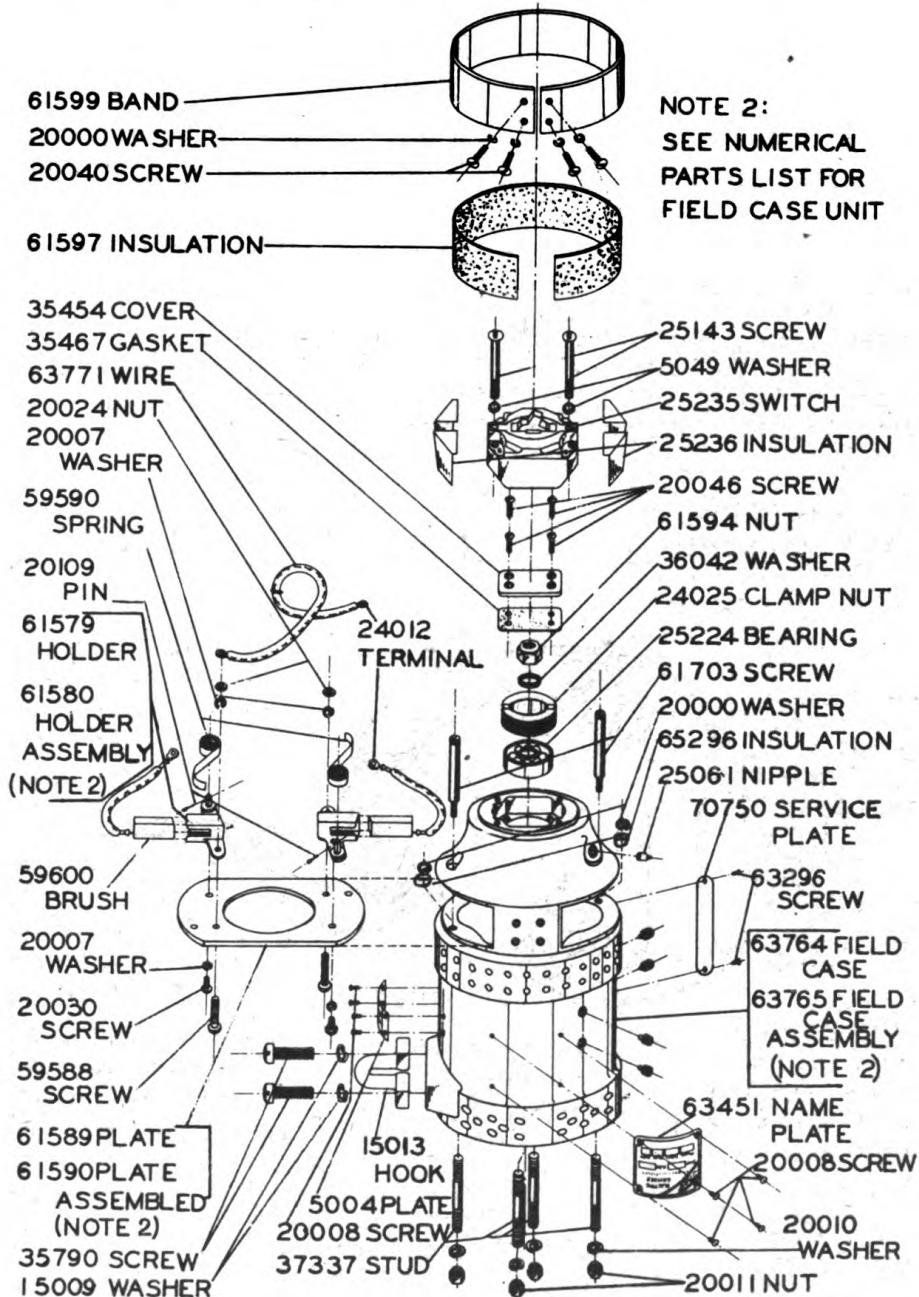
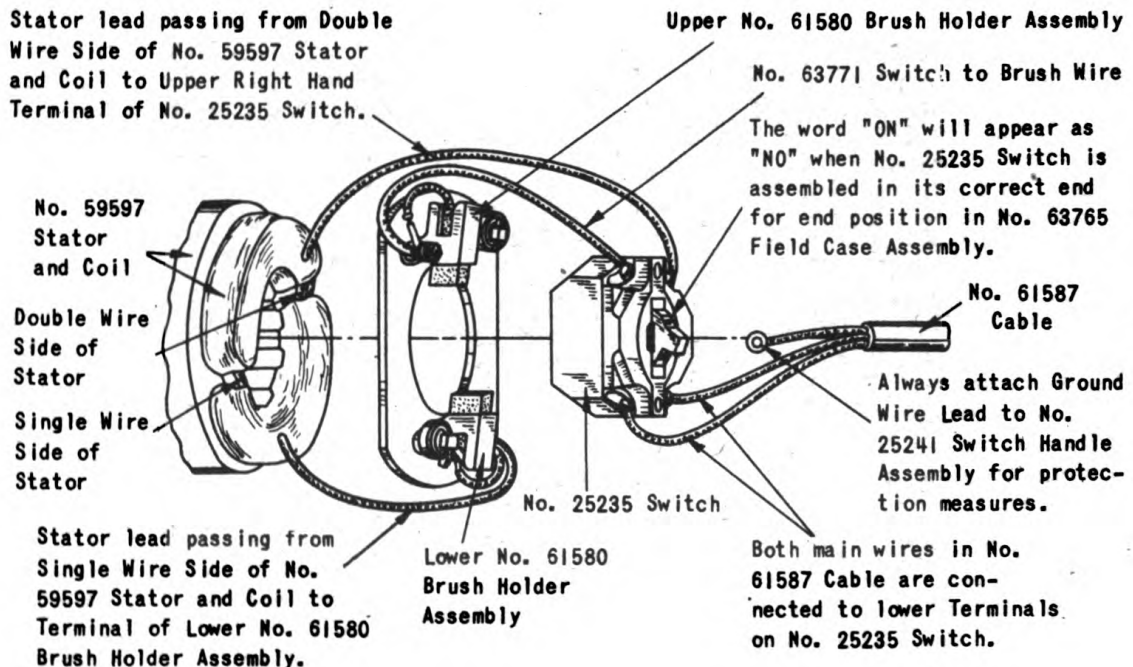

Figure 11
Figure 12
### No. 25235 Switch (Figure 11, Page 19 and Figure 12, below)
When assembling No. 25235 Switch to No. 63765 Field Case Assembly, refer to Figure 12 which shows the correct end for end assembled position of the Switch in respect to the "ON" and "OFF" notations on the Switch Lever.
## No. 25224 Upper Armature Bearing (Figure 11)
5. No. 25224 Upper Armature Bearing is a single side sealed Bearing. It is very important that the Bearing is assembled into No. 63765 Field Case Assembly so that its sealed side faces inward (As shown in Figure 11, Page 19.)